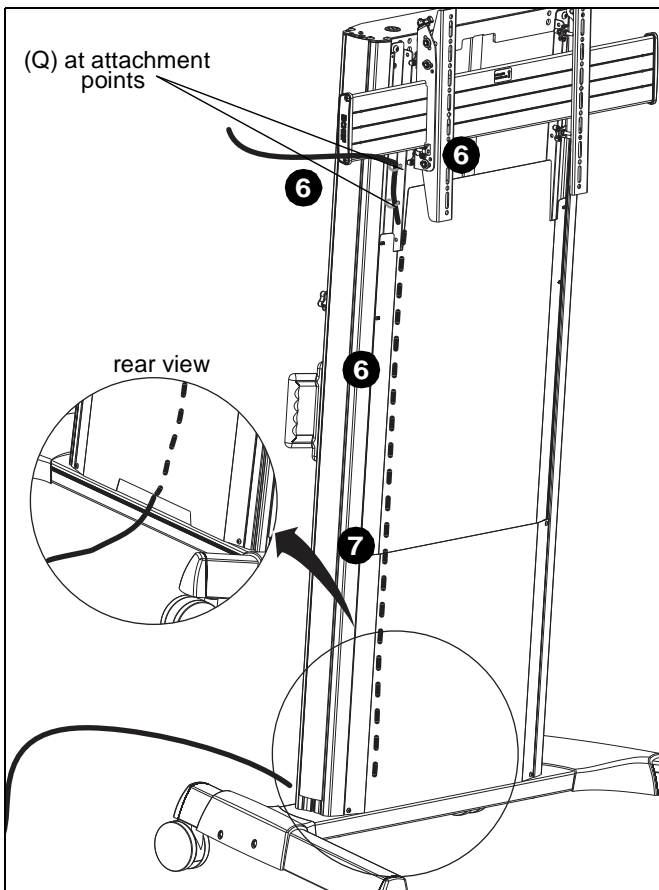

Figure 16
6. Route cables from display through inside of column assembly attaching at cable management attachment points and/or accessory bracket using cable ties (Q) as desired. (See Figure 16)
7. Route cables out through the slot on the back of the cart. (See Figure 16)